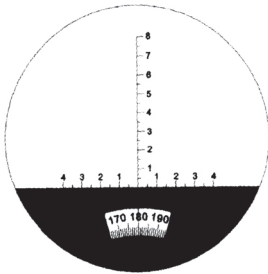

Fig. 3
3.1.3 Reticle Scale (See fig. 3)